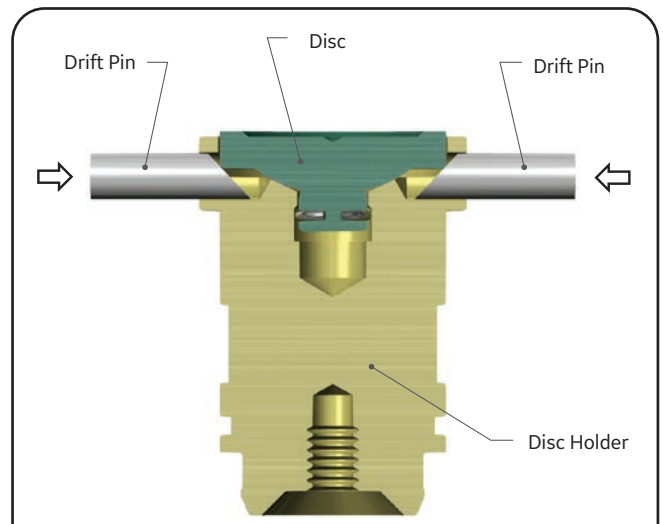

Figure 12: Disc Holder
- ii. Start inserting special drift pins into the holes in the disc holder (Figure 12) with the tapered portion of the pins working against the top of the disc, as indicated. See Figure 64 and Table 17 in the Maintenance Tools and Supplies section (Section XXII.D) for drift pin size.